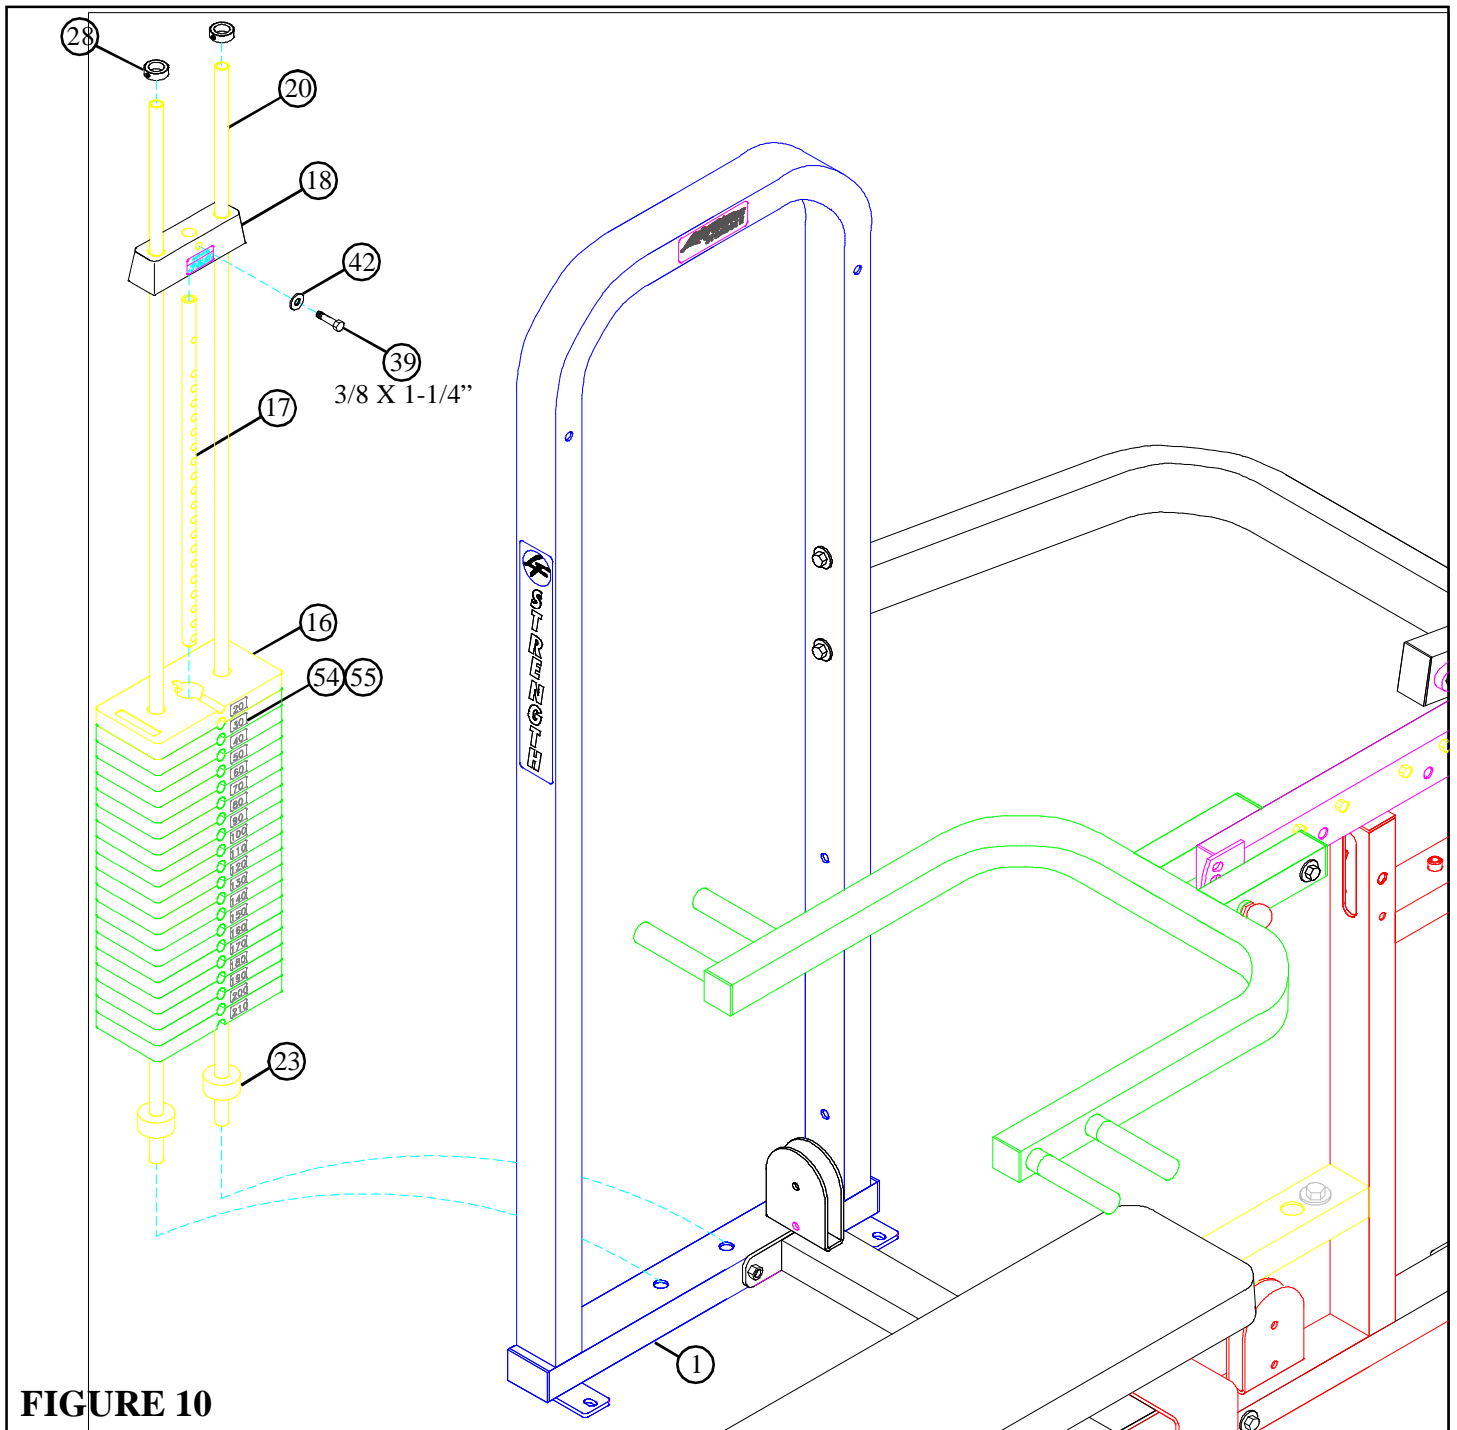

FIGURE 10
- Insert the two GUIDE RODS (20) into the base of the TOWER (1) as shown in FIGURE 10. Lubricate the GUIDE RODS with a silicon or teflon spray that is available at most hardware stores.
- Slide two WEIGHT STACK CUSHIONS (23) down over the GUIDE RODS (20). See FIGURE 10.
- Using **EXTREME CARE** slide twenty WEIGHT PLATES (16) down over the GUIDE RODS (20) with the key-hole facing as shown in FIGURE 10.
- **SECURELY** assemble the WEIGHT STACK SHAFT (17) to the HEAD PLATE (18) using one 3/8 X 1-1/4" BOLT (39) and one 3/8" WASHER (42). (**Note: The bolt hole in the HEAD PLATE (18) should be on top.**)
- Carefully Slide the HEAD PLATE ASSEMBLY down over the GUIDE RODS (20) onto the weight stack as shown.
- Slide two 13/16" SHAFT COLLARS (28) over the GUIDE RODS (20) as shown in FIGURE 10.
- Apply one set of WEIGHT STACK LABELS - LBS. OR #1-25 (54) (55) to each WEIGHT PLATE (16). See FIGURE 10.